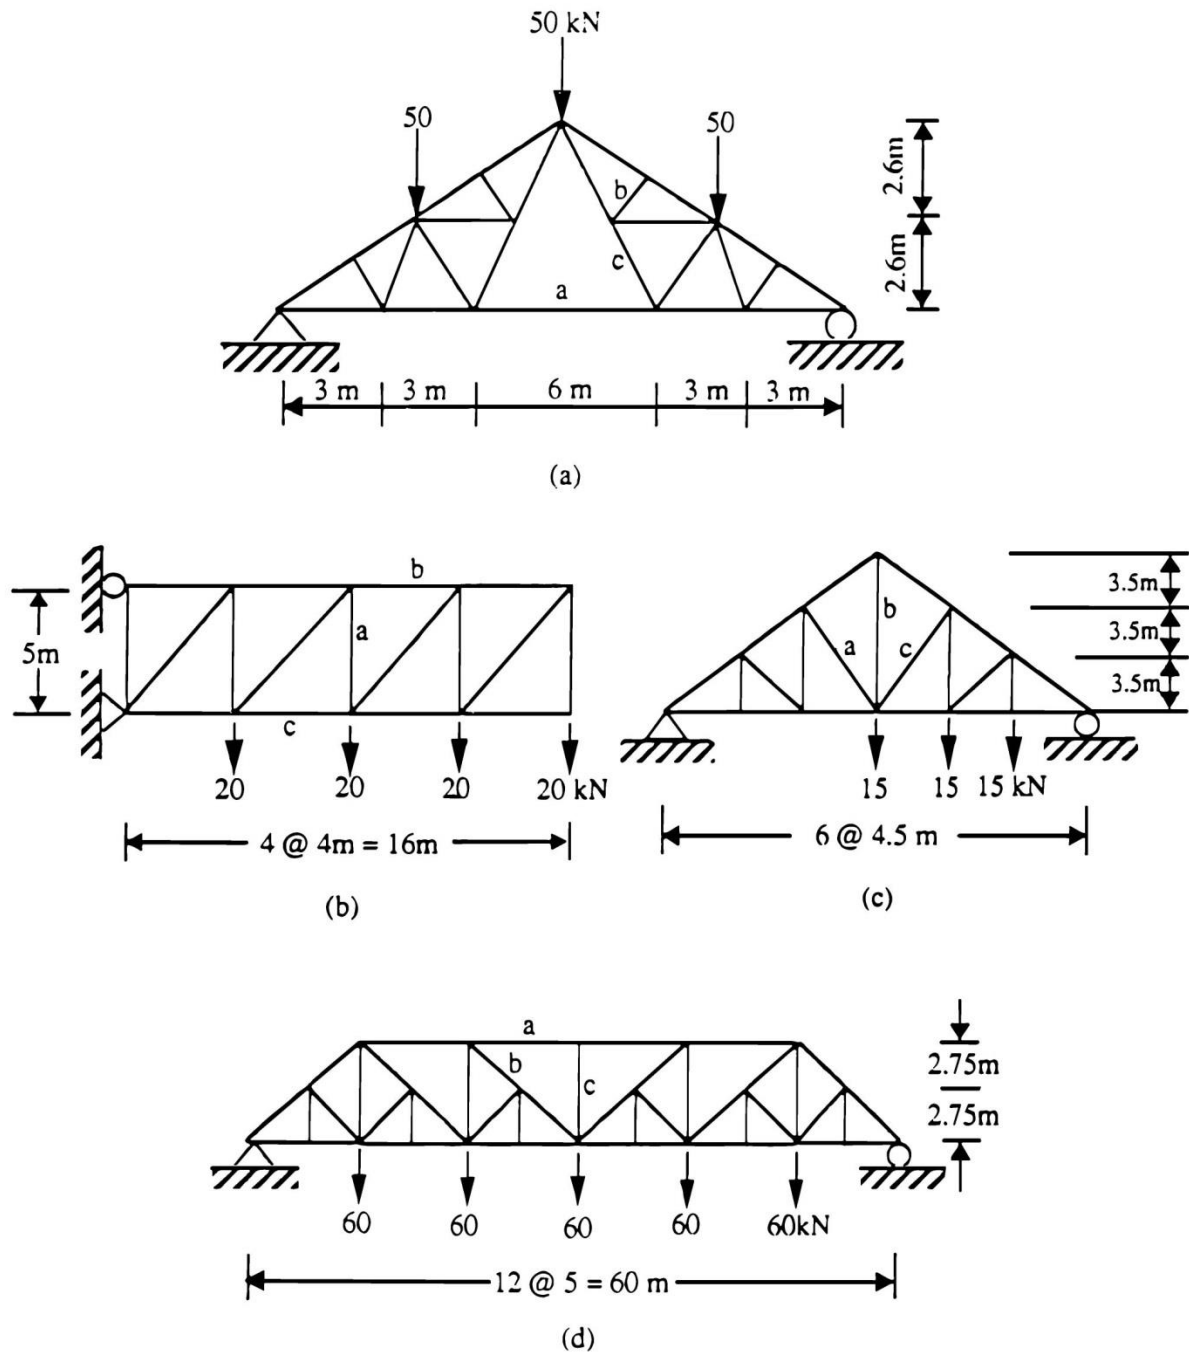

Fig. 9
Q.9 For each of the trusses illustrated in Fig. 9, determine the axial forces in the members identified as a, b and c.